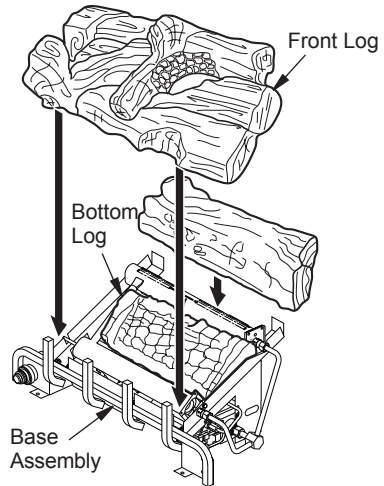

Figure 27 - Installing CRB and HRB Model Log Sets
- Place bottom log in center of the base assembly as shown in Figure 27.
- Rest rear log in back corner sections of base assembly as shown in Figure 27. Make sure log is completely vertical and not leaning in toward burner where the flame will touch the log.
- Position front log as shown in Figure 27, making sure the grooves in the bottom of the log fit over the grate prongs.